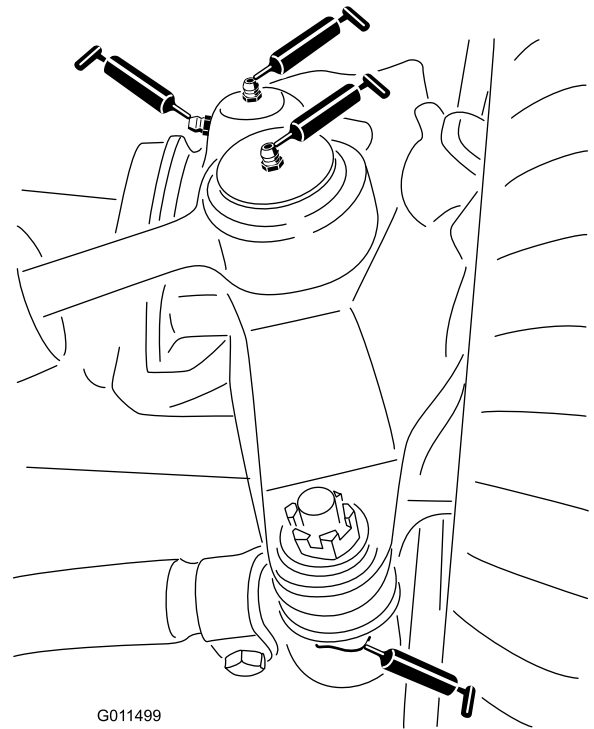

Figure 38
- Steering cylinder ball joints (2) (Figure 38)
- Tie rod ball joints (2) (Figure 38)
- King pin bushings (2) (Figure 38).